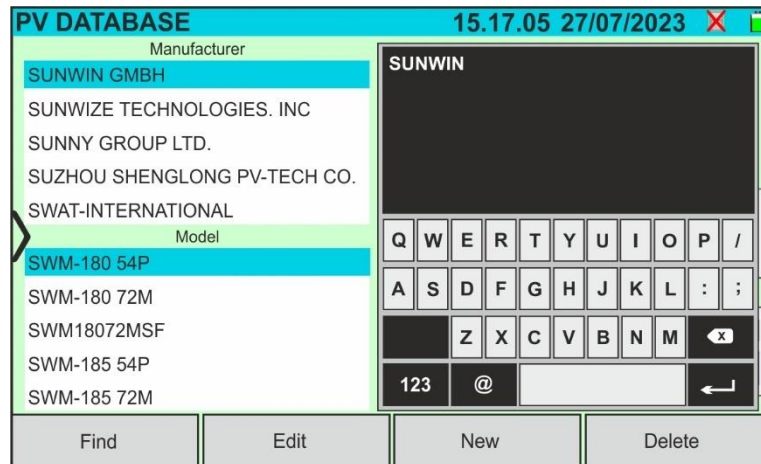

Fig. 31: Search by manufacturer
5. Use the alphanumeric virtual keyboard to enter the desired manufacturer's name or a keyword and tap on  (ENTER) on the virtual keyboard to confirm. The searched manufacturer (if present) will be highlighted on the display (see Fig. 31)